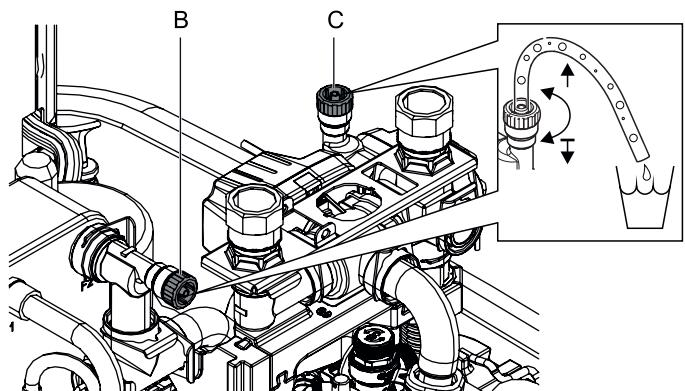

Fig. 5-4 Manual venting valves
- Fit a hose to the manual venting valve (fig. 5-4, item B) and direct the hose away from the device. Open the valve until water comes out.
- Fit a hose to the second manual venting valve (fig. 5-4, item C) and open until water comes out.